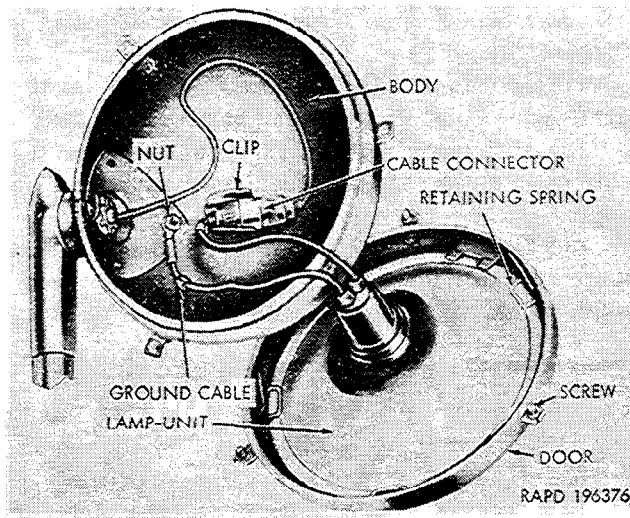

Figure 2-49. Spotlight lamp unit (ambulance truck M43 and telephone maintenance truck M201).
d. Replace Lamp Unit in Spotlight (Ambulance Truck M43 or Telephone Maintenance Truck M201 (fig. 2-49).